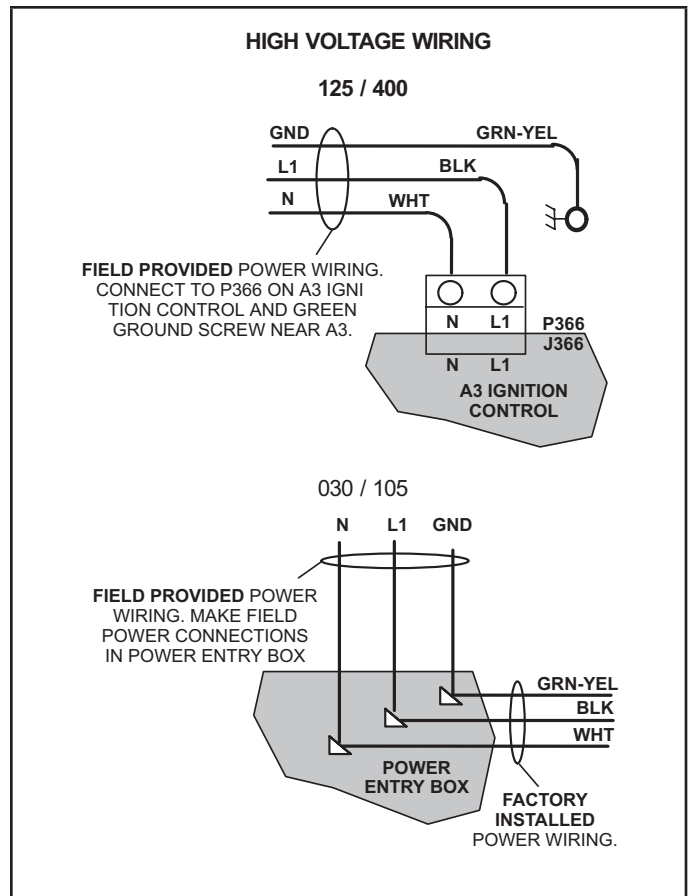

FIGURE 9
- 2 - Make line voltage connections as shown in figure 9. On 030-105 units, use pigtails provided in power entry box. On 125-400 units, connect wires to 2-pin P366 plug located on the A3 ignition control board. For ease of installation, disconnect P366 plug from J366, make wire connections, and replace P366. Refer to wiring diagram on unit and the appropriate typical diagram in this manual.